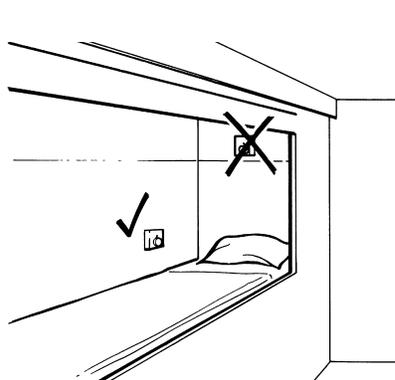

Figure 2-37. Thermostat Location
3. Locate the PROHEAT thermostat in a central area of the sleeper, approximately 12" above the bunk. Avoid direct air flow from sleeper fan ducts. (Figure 2-37)